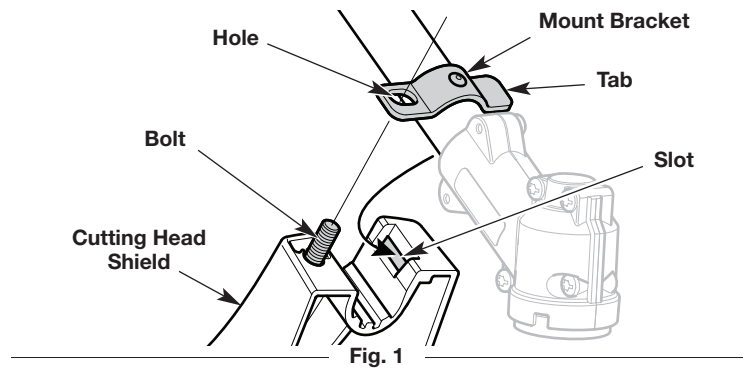

Fig. 1
2. Insert the short tab (the one without a hole) on the mount bracket into the slot on the cutting head shield (Fig. 1).
3. Rotate the cutting head shield until the bolt on the cutting head shield protrudes through the hole on the mount bracket (Fig. 1).